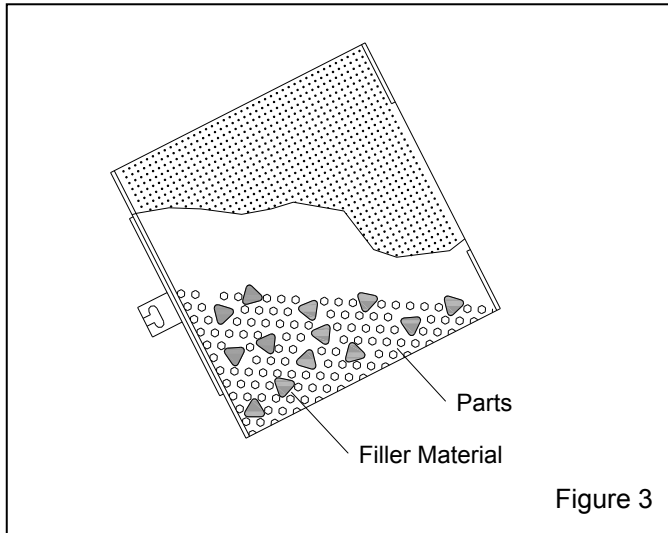

Figure 3
**3.3.3** Do not under-load with parts, under-loading will result in rapid wear to the tumble basket. When blasting small loads, to prevent the blast stream from blasting the basket, add filler material (dunnage) as shown in Figure 3, such as an abrasive-resistant tumble media that is compatible with the parts being blasted.